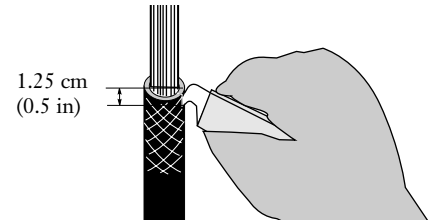

Figure 7
5.9 With a hook blade knife, start at the edge of the cable sheath and make a downward slice in the sheath 1.25 cm (0.5 in.) long (Figure 7). Use extreme care to avoid damaging the buffer tubes.